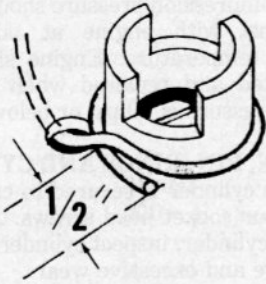

Fig. HL348—Insert rope through rope pulley hole and tie rope around pulley hub in a hitch as shown so 1/2 inch of rope end is exposed.
Rope length should be 45 inches. Apply heat or cement to end of rope and insert rope end through hole in rope pulley and tie a hitch around pulley hub as shown in Fig. HL348. Wind rope around pulley in clockwise direction as viewed from hub side of pulley. Insert rope end through rope outlet of starter housing (14—Fig. HL347) and attach rope handle. Install washer (10) and screw (9). Pull rope back through rope outlet and engage rope in pulley notch. Turn rope pulley clockwise to apply tension to rewind spring. Two complete revolutions of the pulley should provide sufficient tension. Check starter operation then install on engine.